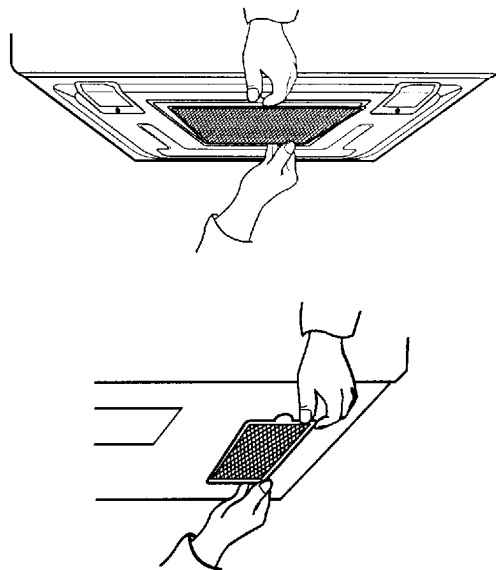

**Figure 33**
6. Use power supply cord clamp to bundle the power supply cord. Install the power supply cord clamp, using a screw as shown in **Figure 33**, to inside of the cabinet.